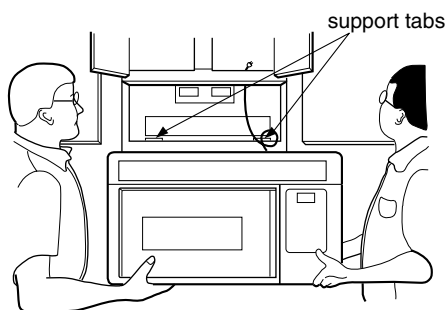

Figure 27
2. Rotate microwave upward so that top of oven is against bottom of upper cabinet or cabinet frame. See Figure 27.